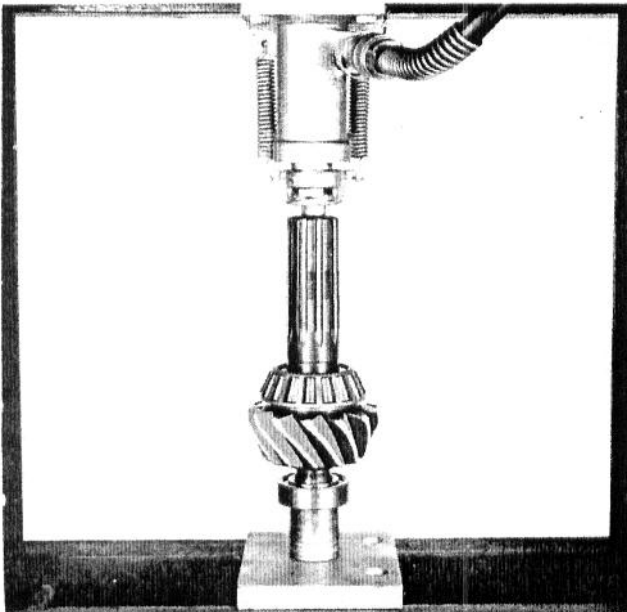

Fig. 60 - Installing Pinion Pilot Bearing
2. Install the pinion pilot bearing as shown in Fig. 60. Use a section of tubing (socket shown) to permit full seating of the bearing. Be certain that tubing contacts only the inner race.